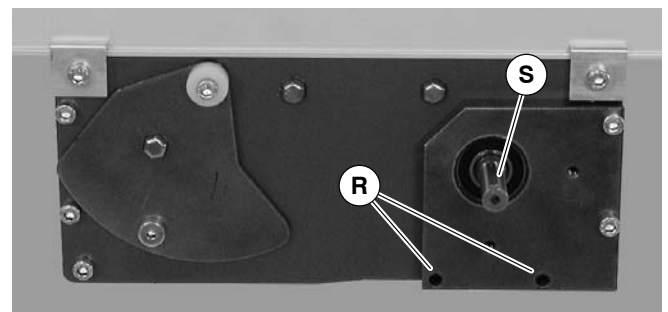

Figure 4
2. Locate drive output shaft (S of Figure 4) and remove two (2) screws (R).